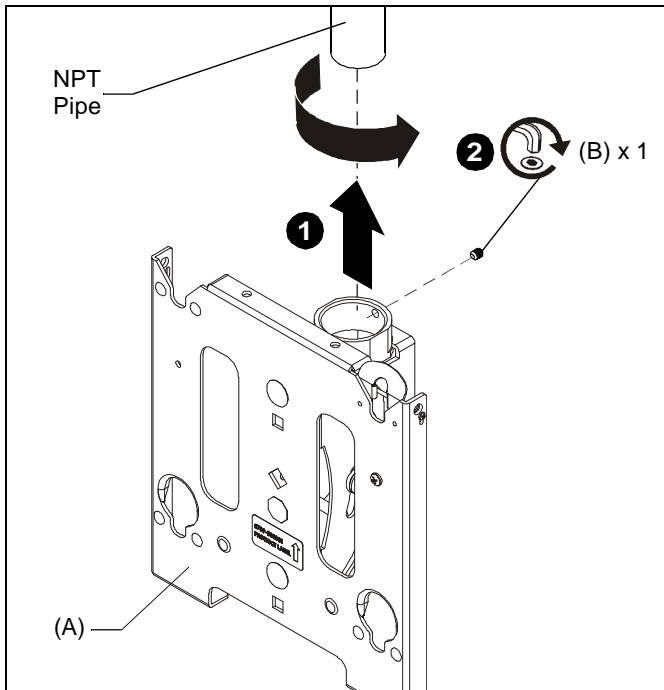

Figure 1
1. Thread the MCS mount (A) onto the existing 1-1/2" NPT or NPSM pipe (not included) until tight. (See Figure 1)
2. Install and tighten the 5/16-18 x 3/8" set screw (B) using the 5/32" hex head wrench (C). (See Figure 1)